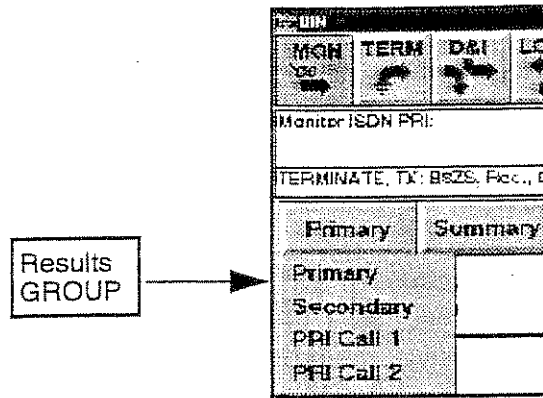

Figure 2-4. Results GROUPS Selection on Main Menu Screen
5. **Results GROUP Display** — The first button in this dual-results display depicts a drop-down list of the current test results, and lets you choose the *source* of results. Select **Primary** or **Secondary** receivers, choosing **Primary**, **Secondary**, **PRI Call 1** (ISDN PRI Call 1), and **PRI Call 2** (ISDN PRI Call 2) (see Figure 2-4).